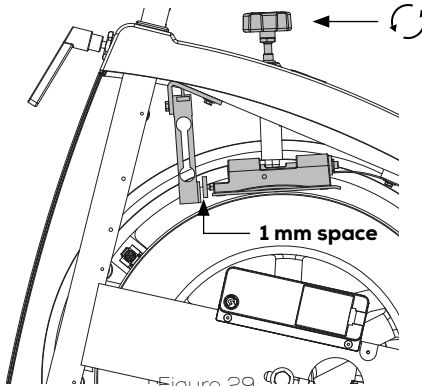

Figure 29
4) When the brake unit has settled, adjust the set screw to obtain 1mm space between the load cell and the set screw, see figure 29. Tighten counter nut. Move the load cell
5) Tighten the counter nut, see figure 29.